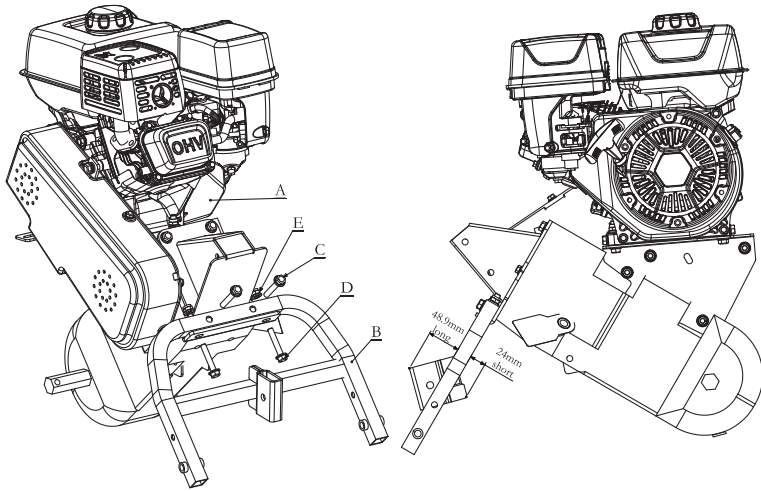

Fig. 1
Step 1 Assembly of the wheel bracket (See Figure 1)
- Assemble the wheel bracket (B) with the engine & frame kit (A) by 2 M8x50 bolts (C), do not tighten the bolts completely;
- From the other direction, assemble the wheel bracket (B) with the engine & frame kit (A) by 2 M8x45 bolts (D) and 2 M8 nuts (E), do not tighten the bolts completely;